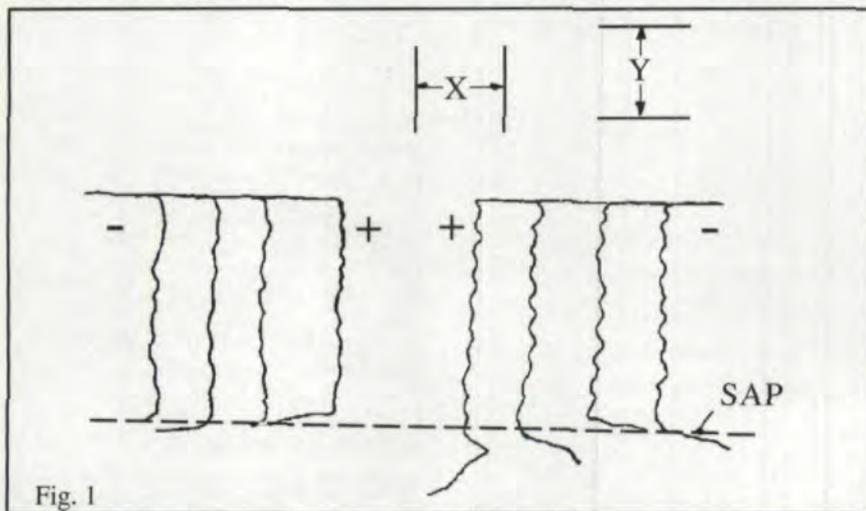

Fig. 1
**Question:** When evaluating charts from a gear inspection machine, it is sometimes found that the full length of the profile traces vary, and that sometimes they are less than the length of active profile (above start of active profile-SAP) by up to 20%. This condition could be caused by a concentricity error between tooth grinding and shaping, or by unequal stock removal when grinding. (See Fig. 1.) Is it possible that some of the variation is coming from the inspection machine? How can variation from the inspection machine be reduced?
When looking at Fig. 1, the minus stock shows near the start of active profile (SAP), sometimes above and sometimes below the line. This is an undercut of the teeth. When producing gears with a small number of teeth, this can be a natural result of the trochoid generated by the cutting tool. However, the gear we are discussing had 31 teeth, so the undercut must be from intentional protuberance built into the pre-grind shaping tool. Theoretically, if the cutter were designed correctly, this would clean up to a nice blend in the grinding operation. From a practical standpoint, this probably will never happen. The amount of protuberance would have to be just right, stock division evenly balanced, and the tool
If everything were theoretically correct, but the operator didn't divide the stock equally between sides, the undercut would show on one set of flanks only (e.g., the right flanks). That is not the case in Fig. 1. Some teeth look good on both sides, and some look bad on both sides. Therefore, I must assume that the operator did divide stock the best he could, and that runout did exist some place in the process between cutting and grinding of the teeth. Also, given the fact that the tips all line up on the chart, I don't believe that the inspection machine is at fault in this case.
Performance, in my mind, is related to noise or vibration (transmission error). If the undercut is severe and uses up 20% of the active profile as the questioner says, there could be loss of contact ratio and, therefore, loss of smooth motion. For the amount shown in Fig. 1, it should make only an insignificant difference.